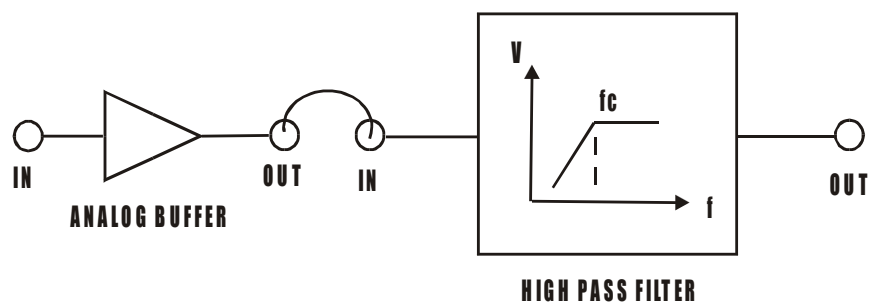

FIG. 3.1 STUDY OF FILTERS
The simplest structure of K-constant filter is shown in figure 3.1. The figure shows an example of pass band filter, the only one being examined as the results may be related to high pass, pass-band, notch filter.
- Ref to the fig. 3.1 & carry out the following connections.